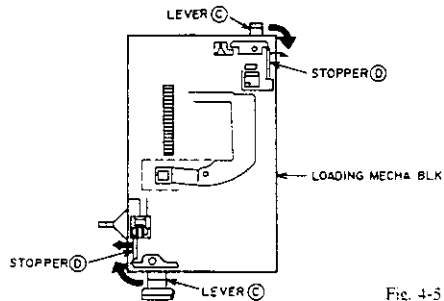

Fig. 4-5
- 1) Turn the LEVERS ③ while releasing the STOPPERS ④ as shown Fig.4-5.